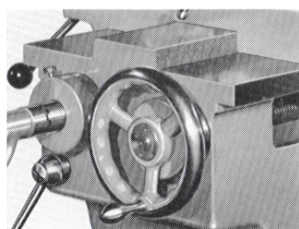

Figure 18B
**Manual Cross Feed** — The handwheel shown in Figure 18B is for moving the table by hand across the top of the knee. One turn clockwise of the handwheel raises the saddle  $.200$  of an inch towards the column. The micrometer dial is graduated into 200 equal spaces with one space on the dial equivalent to  $.001$ " movement of the saddle.